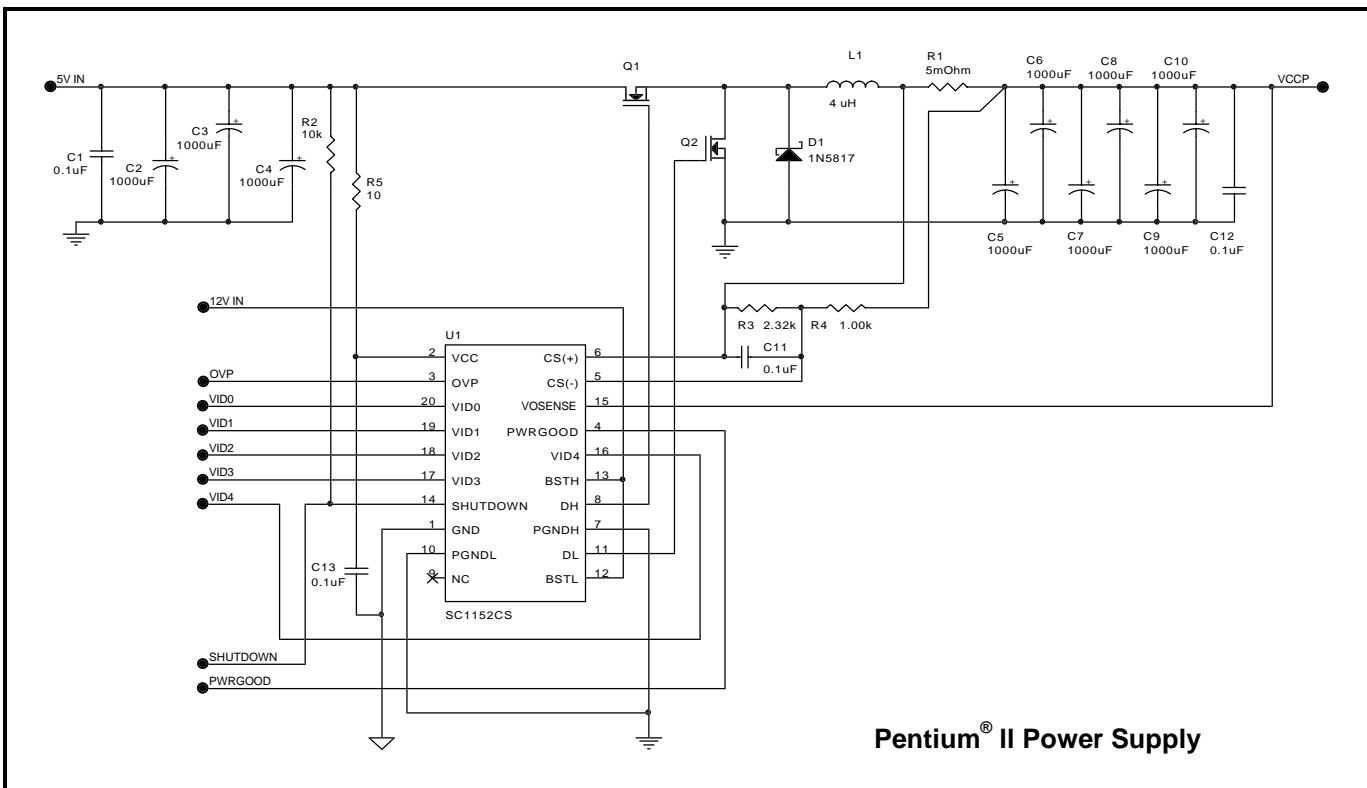

Figure 1.
- (1) Specification refers to application circuit (Figure 1.).
SC1152 Efficiency in Application Circuit (Figure 1).
SC1152 Regulation in Application Circuit (Figure 1).